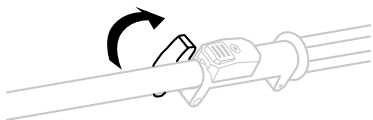

Fig. 4A
2. Loosen the wing knob to release the shaft. (Fig. 4A)